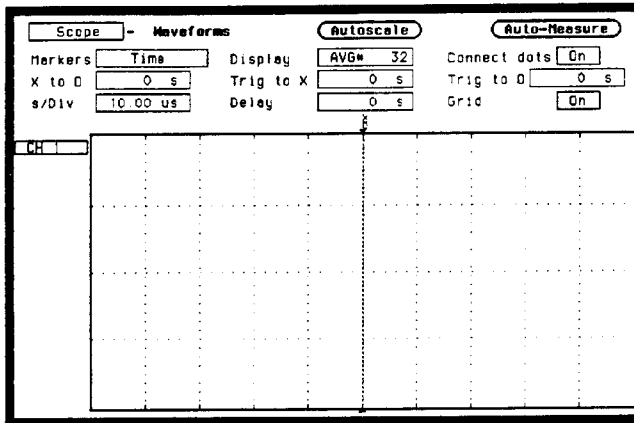

Figure 3-48. Waveforms Menu Configuration
8. Press DISPLAY and set Markers to Time, Display to AVG# 32, Connect dots to On, and Grid to On as in figure 3-48.